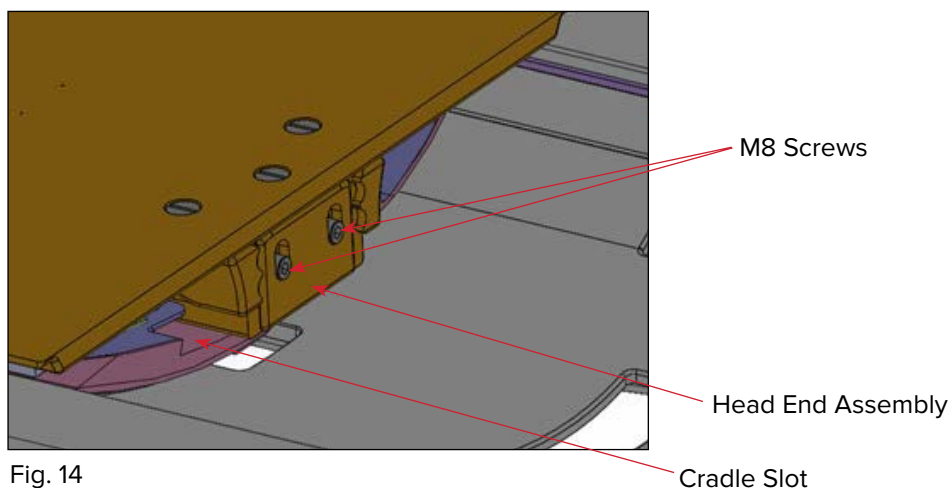

Fig. 14
3. Loosen the M8 screws on the Head End Assembly and slide the Front Lip Catch up or down to a point where it can smoothly slide into the cradle slot (Fig. 14).